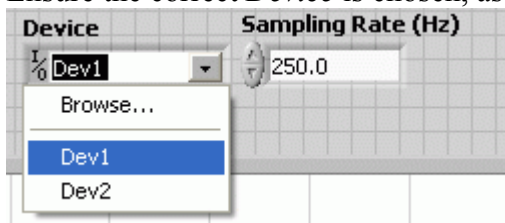

Figure 4: Selecting correct device.
2. Ensure the correct *Device* is chosen, as shown in Figure 4.